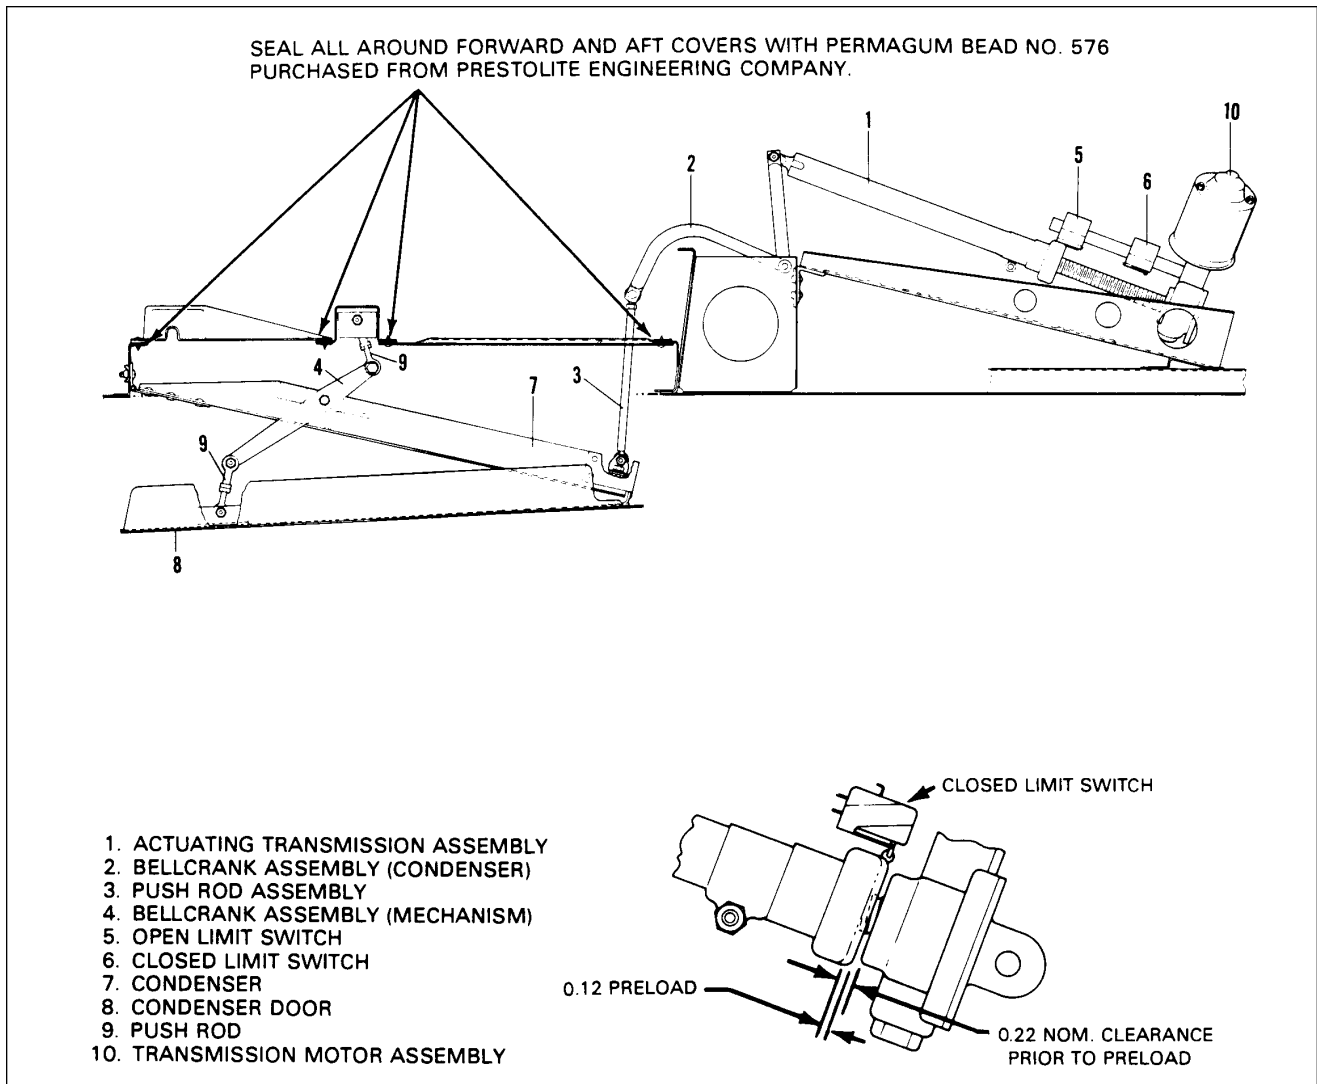

Figure 14-11. Condenser Air Scoop Installation
- f. Seal around forward cover panel (and aft cover panel if removed) with Permagum Bead no. 576 purchased from Prestolite Engineering Company. (See Figure 14-11.)
The actuator is on a bracket mounted between two bulkheads in tail cone. It is coupled to the condenser assembly through a bellcrank mounted to a bracket on bulkhead aft of condenser. Actuator travel is controlled by two limit switches. Both up and down switches are on the actuator. Refer to Figure 14-11 for switch locations.
### 14-32. CONDENSER DOOR ASSEMBLY RIGGING INSTRUCTIONS. (Refer to Figure 14-11.)
- Fully close door and adjust CLOSED limit switch so actuator travels an additional 0.12 inch with door fully closed, (required to pre-load mechanism). (Refer to Figure 14-11.)